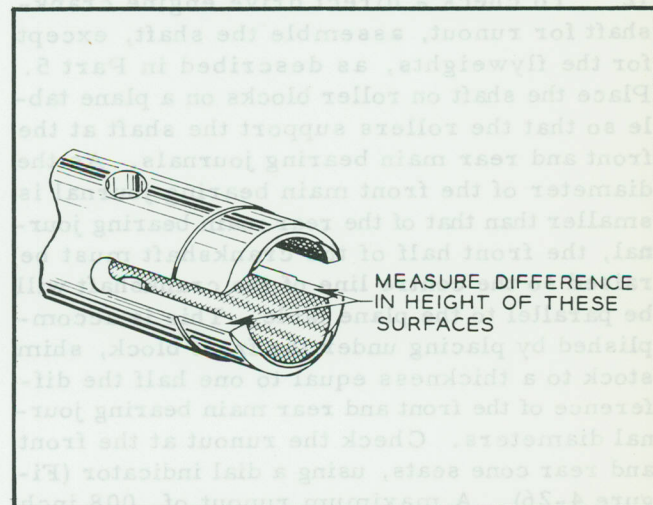

Figure 4-25 Suspected Guide
- 4 Examine for cracks, especially at the slotted ends. Inspect for scoring. Check the tightness of the guide in the front case by tapping the end of the guide with a hide mallet. Check for excessive wear with the maximum wear gauge. Using the aligning gauge check the alignment of the guides. If the gauge does not enter two adjacent guides, place a dial indicator on a straight-edge across the cam shelf and measure the relative difference in height between the sides of the roller slot in the suspected guide. (Fig. 4-25). A maximum difference of .008 inch in the height of the sides is permissible. Re-position, if practicable, otherwise exchange any guides found out of alignment.